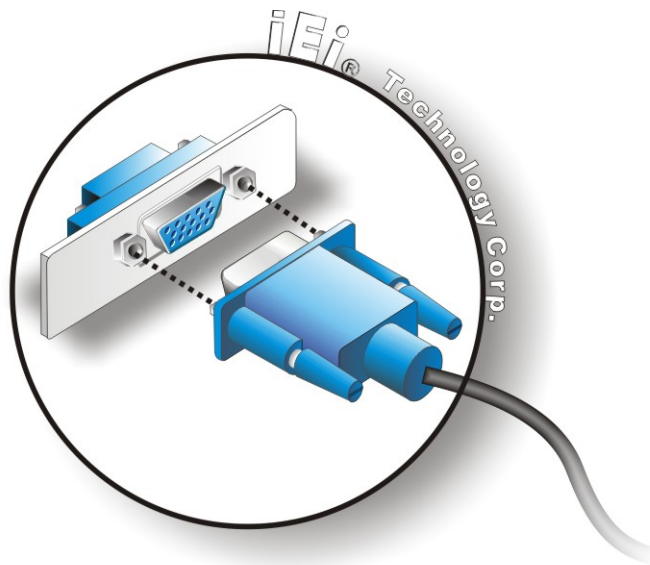

Figure 5-18: VGA Connector
- Step 3: Insert the VGA connector** Once the connectors are properly aligned with the insert the male connector from the VGA screen into the female connector on the WAFER-LX3. See **Figure 5-18**.